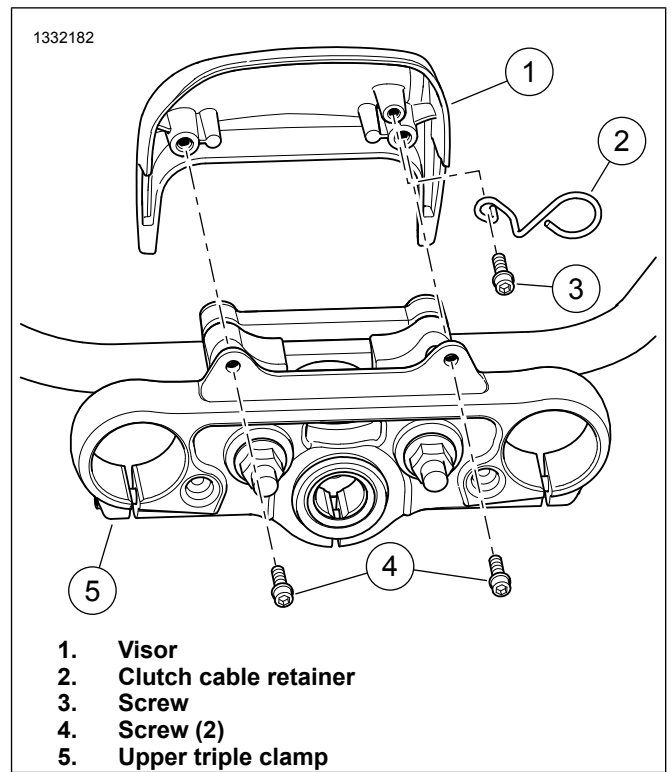

Figure 3. FXLR Visor
1. Figure 3 Remove screws (4) from upper triple clamp (5).
2. Remove visor (1).
3. Remove screw (3) and OEM clutch cable retainer.
4. Install clutch cable retainer (2) from kit.
5. Install screw (3). Tighten.